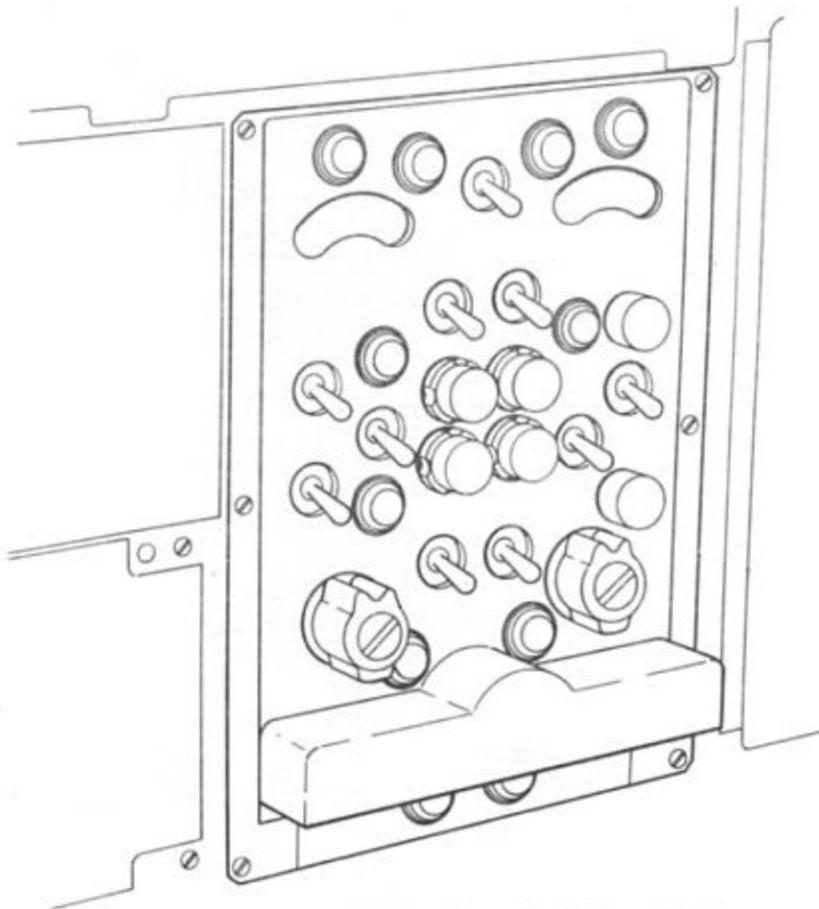

Fig.5 Control unit, Type 13044
10. All the controls necessary for the normal operation of the equipment are contained in the control unit (fig.5).